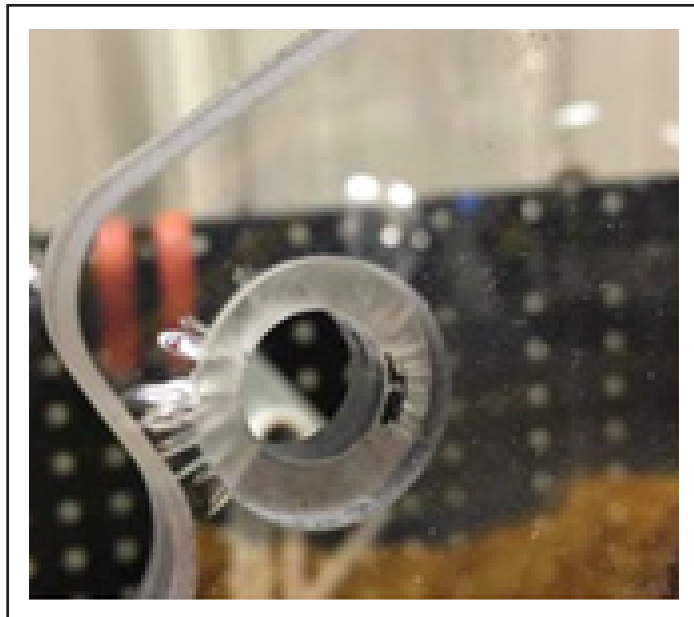

Figure 3 - Cracks on the Lexan Panel
- 1.6. Inspect the lexan panels for cracking around the corners where the brackets are mounted to the lexan panels. Replace lexan panel if there are any visible cracks, use level 2 BOM (see figure 3).